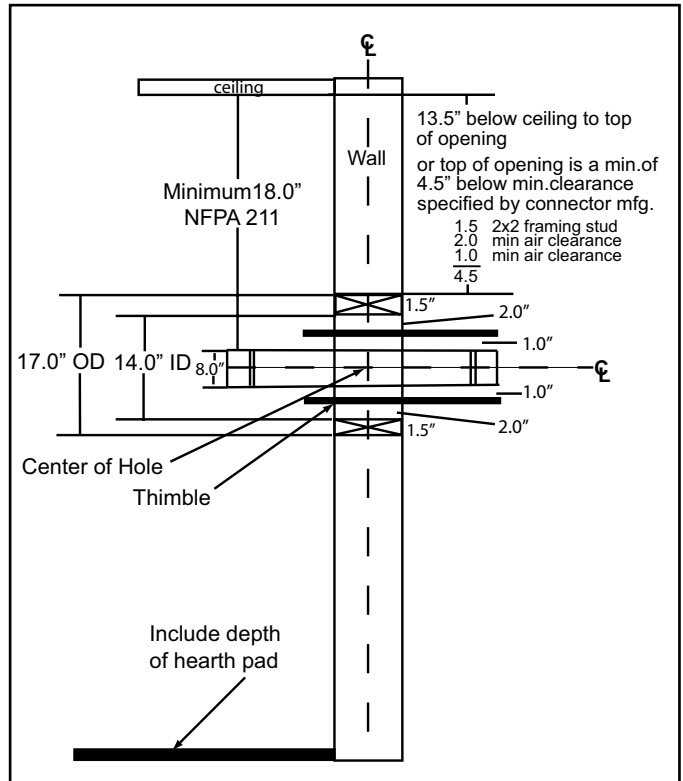

Figure 17.1
- Top of wall opening is a minimum of 13-1/2 inches (343mm) from ceiling or 4-1/2 inches (114mm) below minimum clearance specified by chimney connector manufacturer. NFPA 211 minimum vertical clearance of 18 inches (457mm) from chimney connector and ceiling or minimum recommended by chimney connector manufacturer. **Figure 17.1.**
1. Open inside wall at proper height for the chimney connector to enter the masonry chimney. **Figure 17.1.**
3. Construct a 17 inch x 17 inch (432mm x 432mm) outside dimension frame from 2 x 2 framing lumber to fit into wall opening. Inside opening of frame should be no less than 14 inch x 14 inch (356mm x 356mm). **Figure 17.1.**